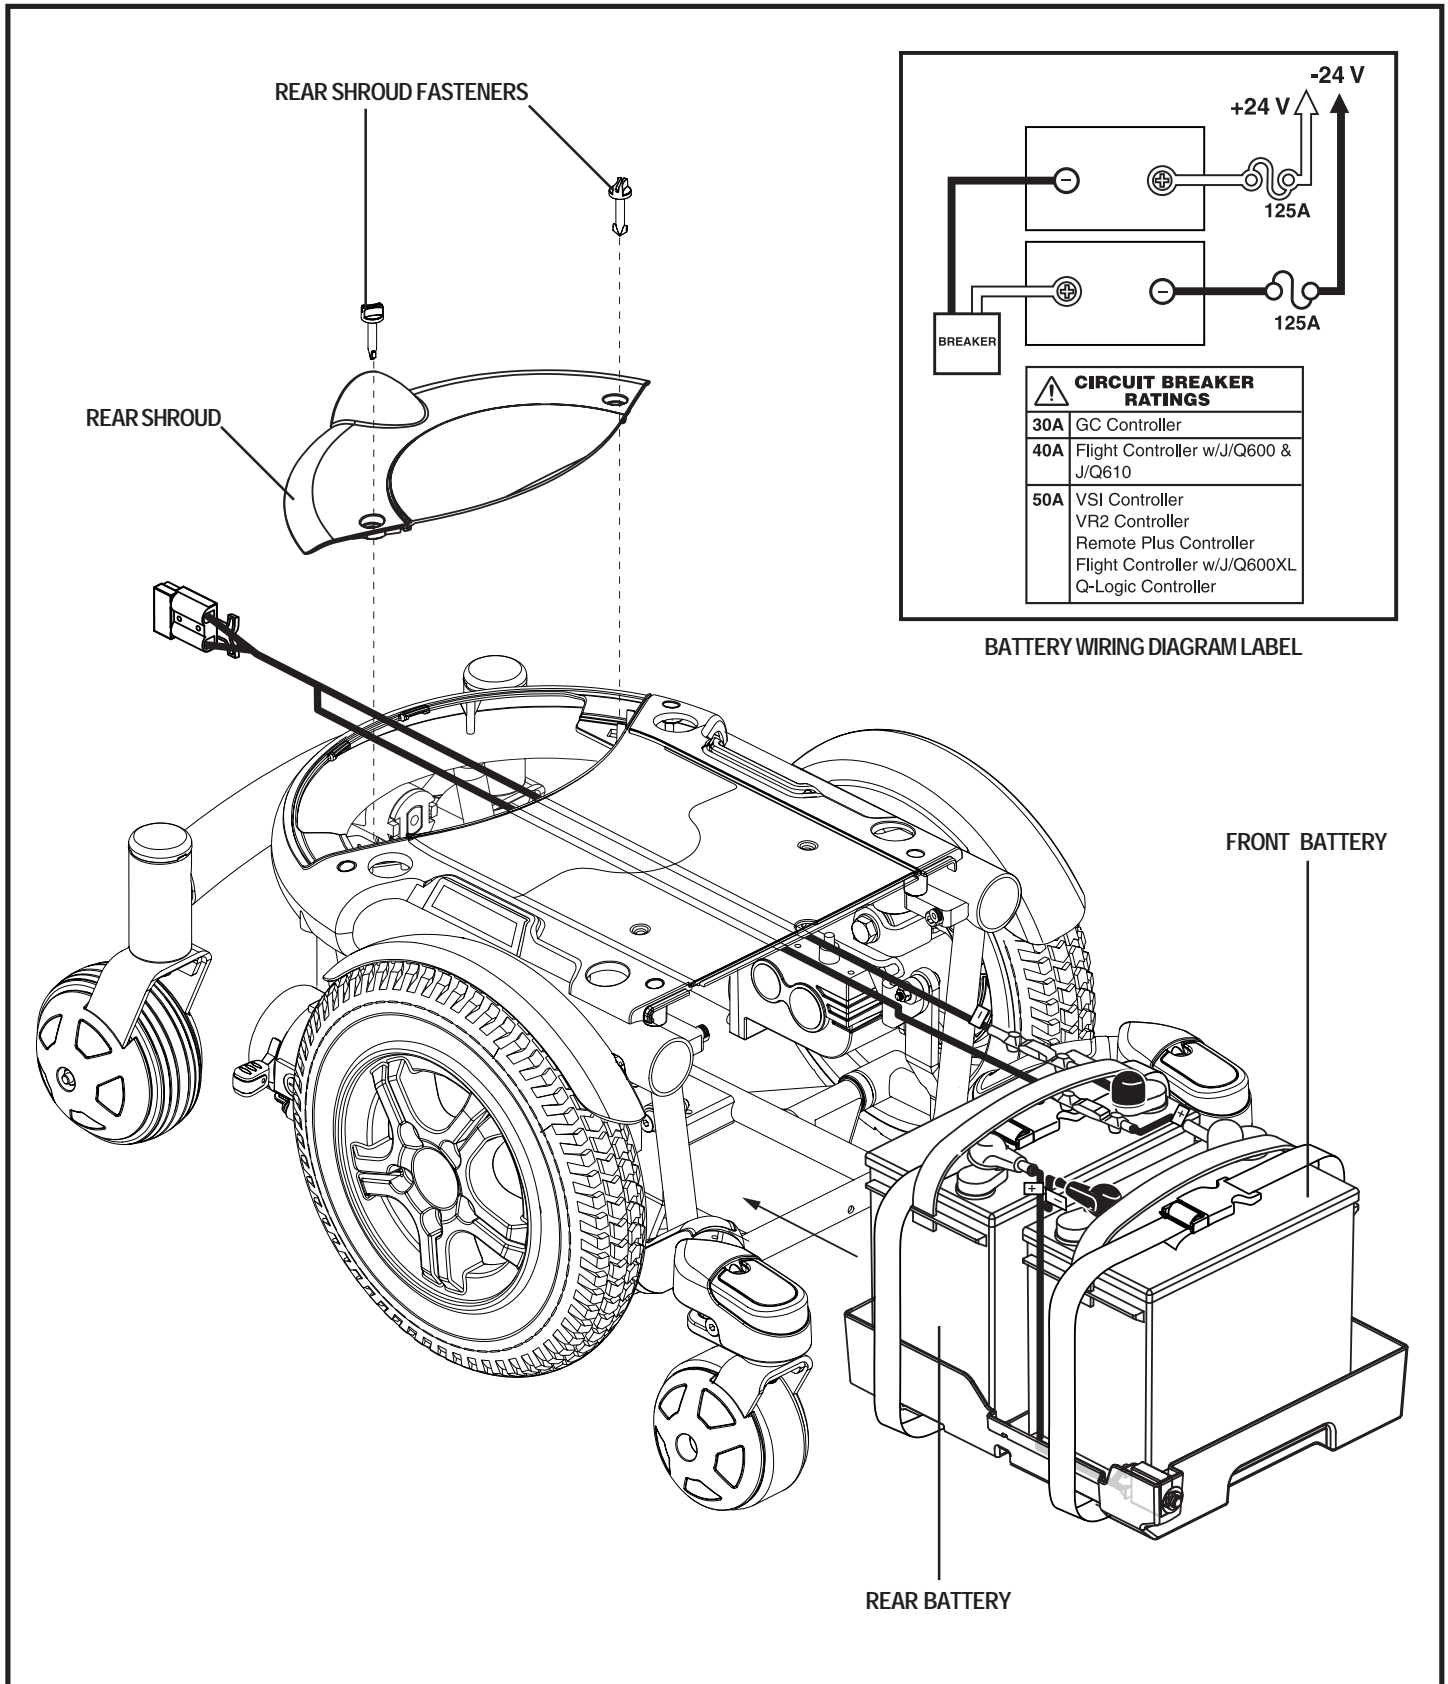

Figure 22. Battery Installation
13. Connect the battery harness to the front battery according to the battery wiring diagram. See figure 22.